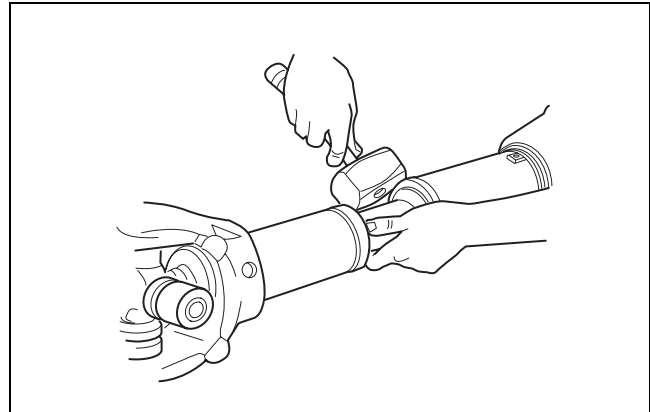
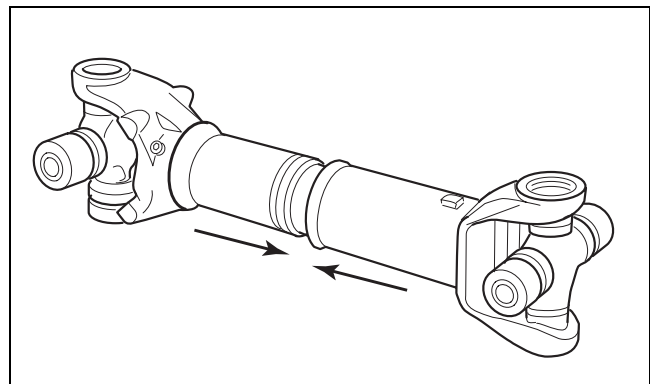

Figure 8.25
Figure 8.26
- Use a brass or copper hammer to tap the shroud over the seal. Push together the driveline sections. Figure 8.25 and Figure 8.26.